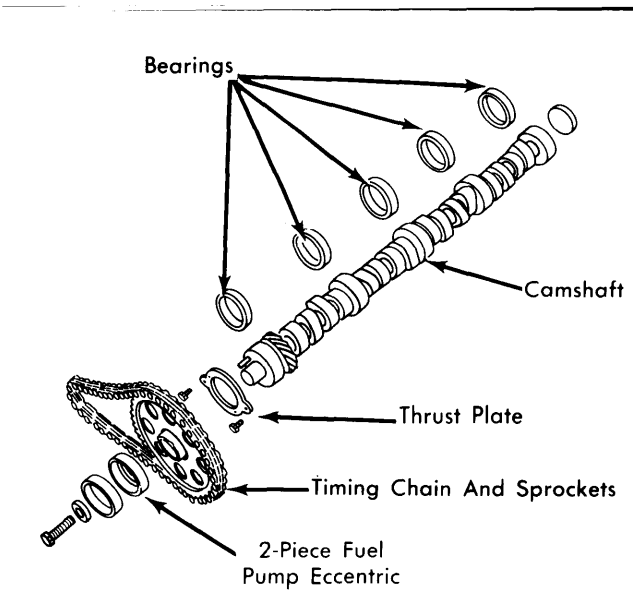

Fig. 18 Exploded View of Camshaft Assembly
**Installation** - Oil camshaft journals and apply Lubriplate or equivalent to cam lobes. Carefully slide camshaft into position and install thrust plate attaching bolts. To install remaining parts, reverse removal procedure. See Fig. 18.